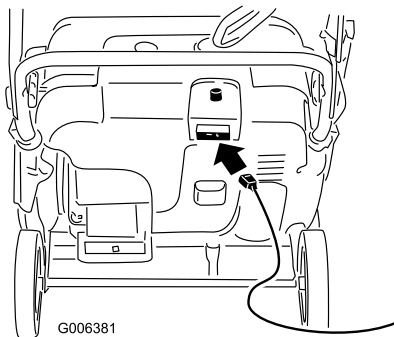
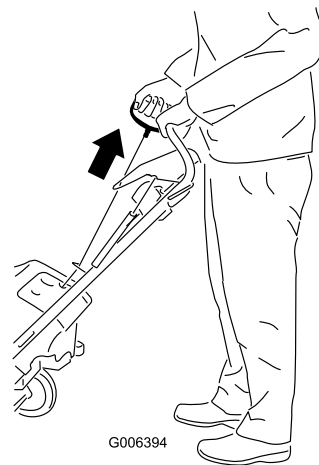

Figure 17
Figure 18
4. Connect an extension cord to a power source and the machine, and push the electric-start button (model 38459 only) (Figure 17), or pull the recoil start handle (Figure 18).